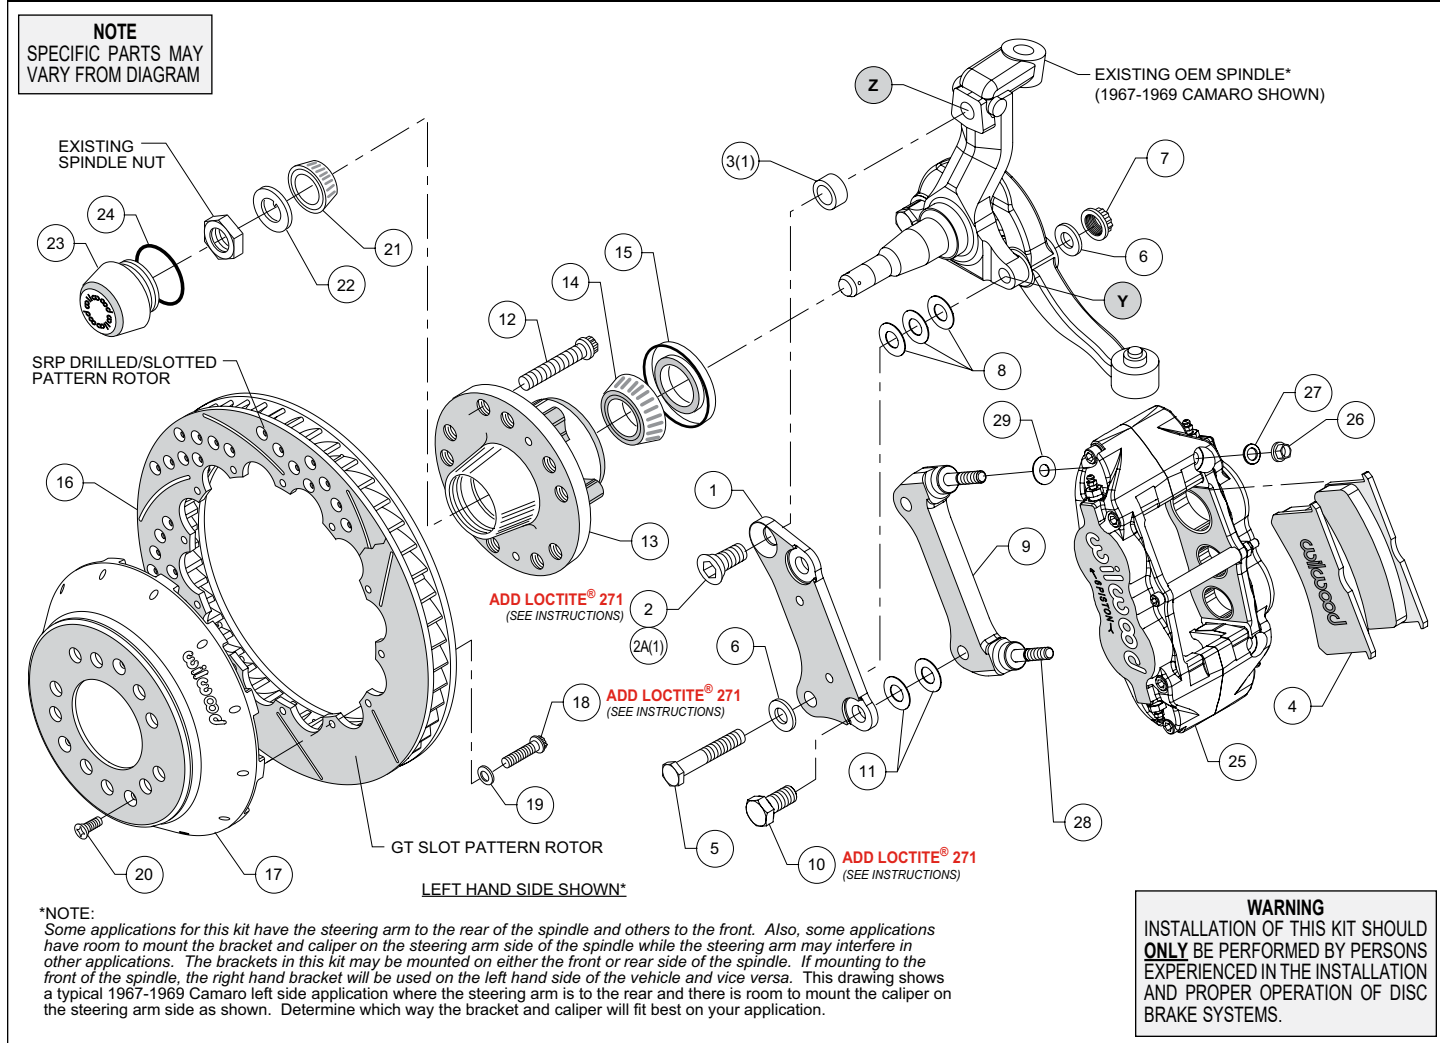
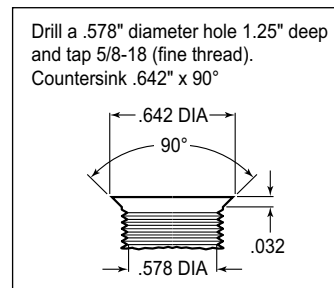
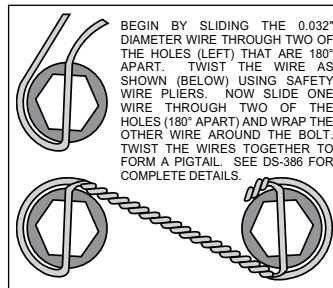

Figure 1. Typical Installation Configuration
Figure 3. Drill and Tap Detail
Figure 4. Safety Wire Diagram
NOTE: Numbers in parenthesis refer to the parts list and Figure 1 on the preceding pages.
- NOTE:** Some applications for this kit have the steering arm to the rear of the spindle and others to the front. Also, some applications have room to mount the bracket and caliper on the steering arm side of the spindle while the steering arm may interfere in other applications. The brackets in this kit may be mounted on either the front or rear side of the spindle. If mounting to the front of the spindle, the right hand bracket will be used on the left hand side of the vehicle and vice versa. Figure 1 shows a typical 1967-1969 Camaro left side application where the steering arm is to the rear and there is room to mount the caliper on the steering arm side as shown. Determine which way the bracket and caliper will fit best on your application.
- NOTE:** Some spindles in this year range may require the following modifications (reference Figure 1 and Figure 3): Top anchor pin hole (Z) must be drilled and tapped to the dimensions as outlined in Figure 3. The lower bolt hole (Y) in the spindle used to mount the new caliper bracket, and the mating steering arm hole, must be enlarged to .50" by drilling. It is recommended these modifications be performed by a qualified machinist.
- Install wheel studs (12) into the hub (13), Photo 1. Torque to 77 ft-lb. **NOTE:** There are two five lug patterns in the hub (5 x 4.50 and 5 x 4.75). Make sure of the correct hole pattern for the correct wheel application before installing studs into hub.
- Pack the large inner bearing cone (14) with high temperature disc brake bearing grease (available from your local auto parts store) and install into the backside of the hub (13).
- Install the grease seal (15) by pressing into the backside of the hub (13), Photo 2.
- Orient the rotor (16) and the hat (17) as shown in Figure 1 and Photo 3. Attach rotor to hat using bolts (18) and washers (19). Apply red *Loctite*® 271 to the bolt threads and torque to 155 in-lb using a criss-cross pattern. For an added measure of security, the bolts may be safety wired using standard 0.032 inch diameter stainless steel safety wire as shown in Figure 4. Please refer to Wilwood's data sheet DS-386 (available at www.wilwood.com/Pdf/DataSheets/ds386.pdf) for complete safety wire installation instructions.
- Disc Brake Spindle Application Only:** Follow the instructions below, but instead use bolt (2A), and spacer (3) in the upper bolt hole location, Figure 1.
- Orient the flat bracket (1) as shown in Figure 1 and Photo 4, and install using bottom bolt (5), washers (6), and nut (7), Figure 1. Initially place three .032" thick shims (8) between the bracket and spindle. Install the upper bolt (2 or 2A). Temporarily tighten bolts. **NOTE:** *The bracket must fit squarely against the mounting surfaces on the spindle.* Inspect for interference from casting irregularities, machining ridges, burrs, etc. Temporarily install the new hub, hat and rotor assembly. Check that the bracket is aligned parallel to the rotor, Photo 5. If not, adjust by adding or subtracting shims (8) on the lower bolt between the bracket and spindle, Figure 1. Once the bracket alignment is correct, remove the upper bolt (2 or 2A), apply red *Loctite*[®] 271 to the bolt threads, and torque to 120 ft-lb. Torque the lower lock nut to 65 ft-lb.
- The radial mount caliper bracket (9) should initially be installed with clean, dry threads on the mounting bolts. Orient the bracket as shown in Figure 1 and Photo 6, and install using bolts (10). Initially place two .029 thick shims (11) on each bolt between the two brackets, Figure 1. Temporarily tighten the mounting bolts. Later, after the caliper alignment has been checked, the mount bolts will be secured using red *Loctite*[®] 271.
- Pack the small outer bearing cone (21) with high temperature disc brake bearing grease and install into hub (13). Final install the hub assembly onto the spindle. Secure using spindle washer (22) and OEM spindle nut, Photo 7. Adjust bearings per OEM specifications. Install saved OEM nut lock (if any) and a new cotter pin (not included).
- Screw dust cap (23) into hub (13). Friction created by the o-ring (24) on the dust cap keeps it from unscrewing. **NOTE:** *The O.D. of the existing OEM spindle washer may be larger than the I.D. of the dust cap not allowing it to seat against the hub face. Therefore, use the spindle washer (22) supplied with the kit instead of the OEM washer.*
- Final install the rotor (16 and 17) assembly onto the hub (13), taking care to align the small countersunk holes in the hat with the small threaded holes in the hub. **NOTE:** *The hat must fit flush against the hub face or excessive rotor run out may result.* Install three flat head screws (20) through the small holes in the hat (17), Photo 8, and torque to 85 in-lb.
- NOTE:** *This kit contains distinct right and left hand calipers that must be mounted in a specific direction, as described below.* Initially place one .035" thick shim (29) on each stud (28) between the caliper and the bracket, as shown in Figure 1 and Photo 9. Mount the caliper (25) onto the bracket (9) using lock nuts (26) and washers (27), Figure 1. Ensure that the caliper is mounted so the largest pistons are at the rotor exit end of the caliper, in relation to the direction of rotor rotation. Temporarily tighten the lock nuts. The rotor should be centered in the caliper, Photo 10. If not, adjust by adding or subtracting shims (11) between the flat bracket (1) and the caliper bracket (9). Always use the same amount of shims on each of the two mounting bolts. Once the caliper alignment is correct, remove the bracket mounting bolts one at a time, apply red *Loctite*[®] 271 to the threads, and torque to 77 ft-lb.